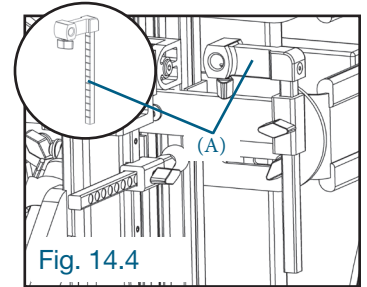

Fig. 14.4
IMPORTANT: If you want to use the VERTIFLEX mobile without the table, completely remove or reverse the two L-shaped bars (A) on each side of the table so that the “L” faces inward toward the VERTIFLEX mobile. (Fig. 14.4)